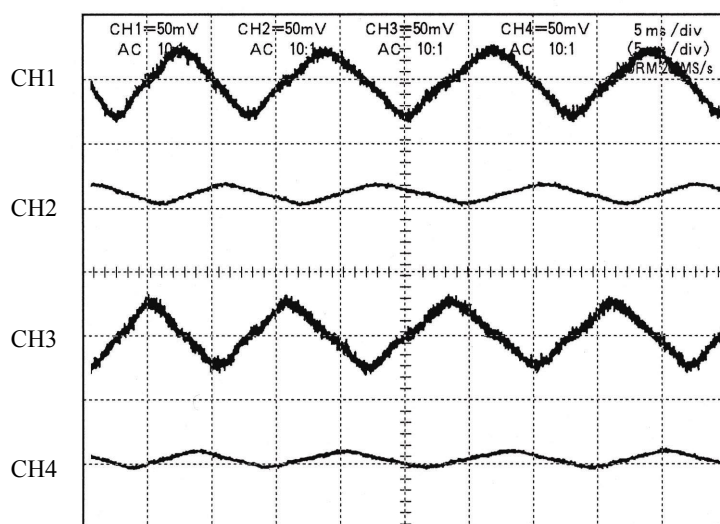

Fig.2
- As shown in Fig. 2, if the amplitude of only either CH1&3 or CH2&4 is small, one of the 2 screws (#218) may be loosened, so check for it. If this is not the case, the MR head may malfunction, so be sure to replace the MR head unit (B19) and make a readjustment.